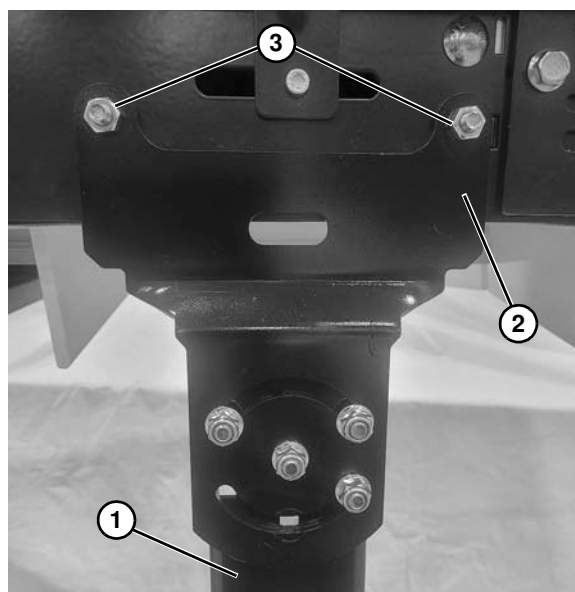

Figure 8
- Place stand assembly (**Figure 8, item 1**) into position on conveyor frame.
- Install two carriage bolts through the inside of conveyor frame and through stand bracket (**Figure 8, item 2**). Secure with two nuts (**Figure 8, item 3**).